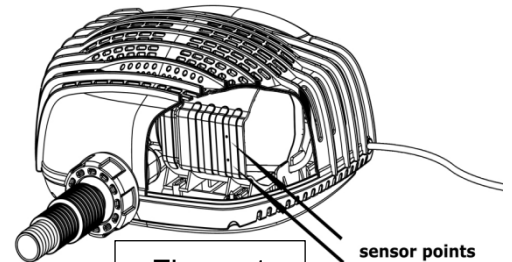

Figure 1
- 4) The pump has a built-in function of dry-run protection. The dry-run protection function is provided by two sensor points on one side of the pump body (not visible from outside.-see Figure 1). The pump works if both of the points are submerged in water. If either or both points emerge out of water, the pump stops working.